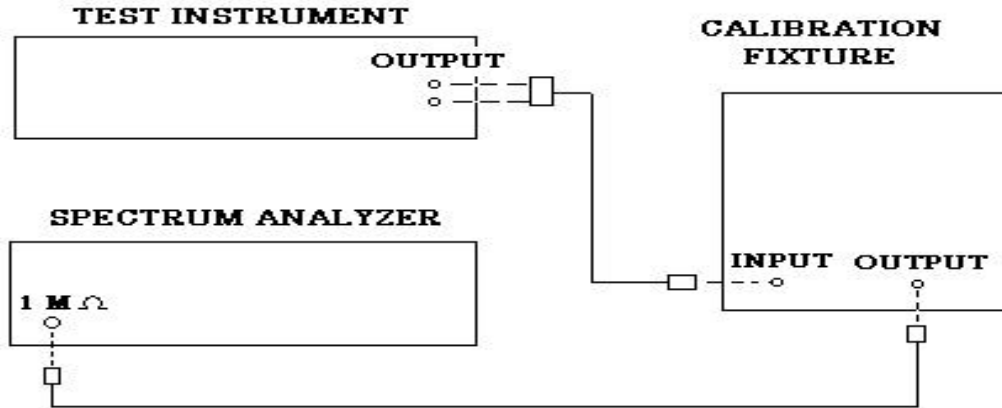

Figure 3. Total harmonic distortion
(1) Connect equipment as shown in figure 3.